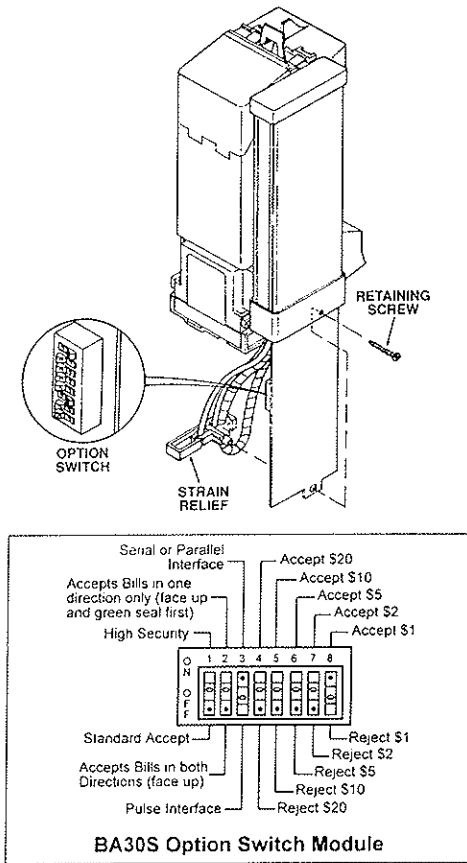

Figure 19
2. Remove the retaining screw that secures the logic board and strain relief. (See **Figure 19**.)